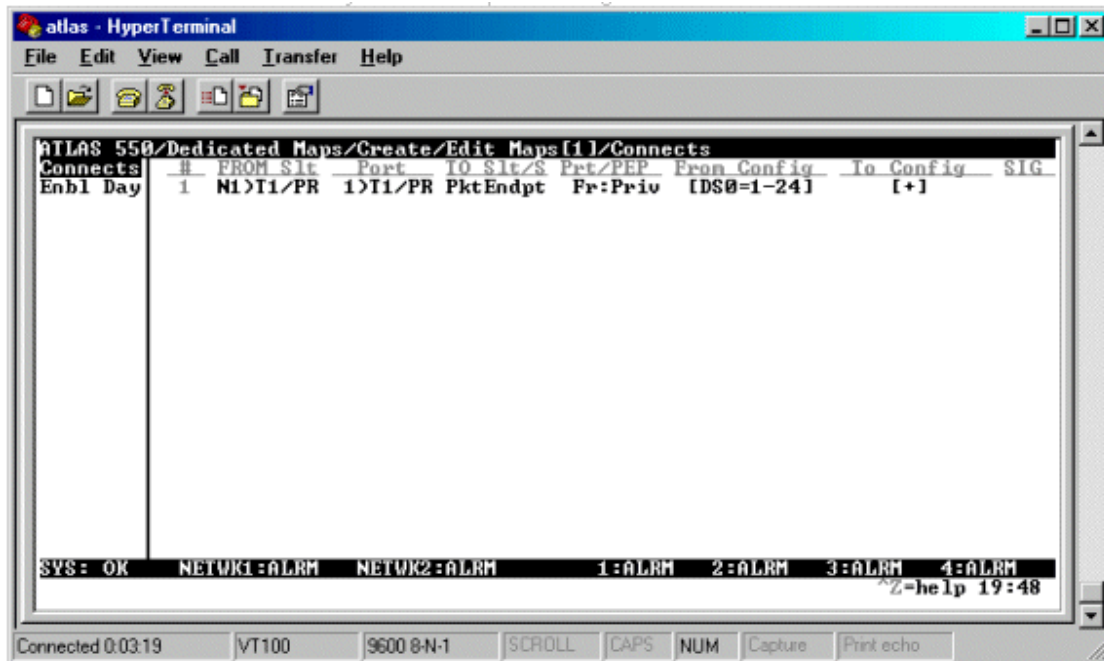

Figure 8
6. Under **To Prt/PeP**, select the packet endpoint created earlier which will terminate the frame relay circuit. See **Figure 8**.